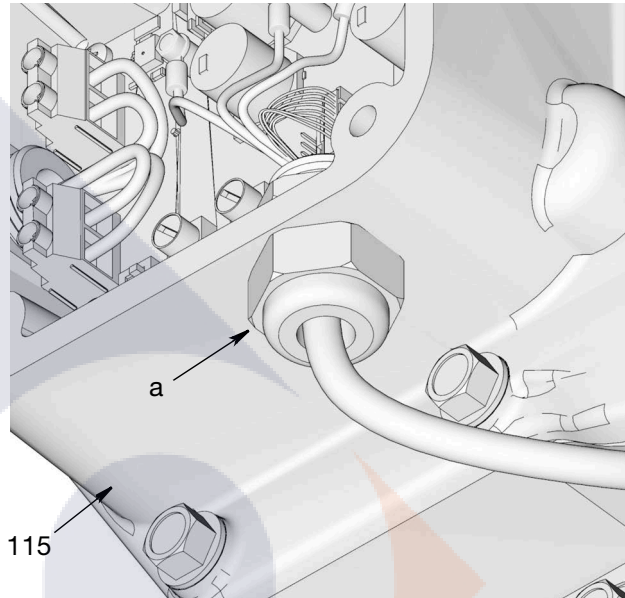

FIG. 57
8. Use a wrench to loosen strain relief (a) and remove wiring harness from housing (FIG. 57).